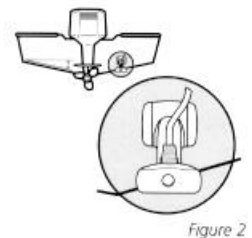

Figure 2
- The transducer when mounted should point straight down. The design of the transducer will accommodate a wide range of deadrises and remain ported straight down (Figure 2).